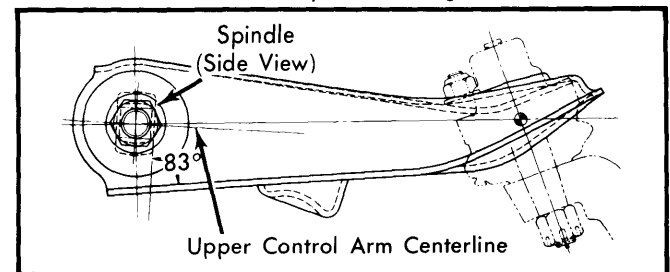

Fig. 4 Side View of Upper Control Arm Showing Alignment of Spindle in Relation to Control Arm Centerline
5) Install upper control arm assembly to its mounting by setting upper link spindle-to-control arm position as shown. See Fig. 4. Tighten mounting bolts to specifications, installing camber shims to original positions.